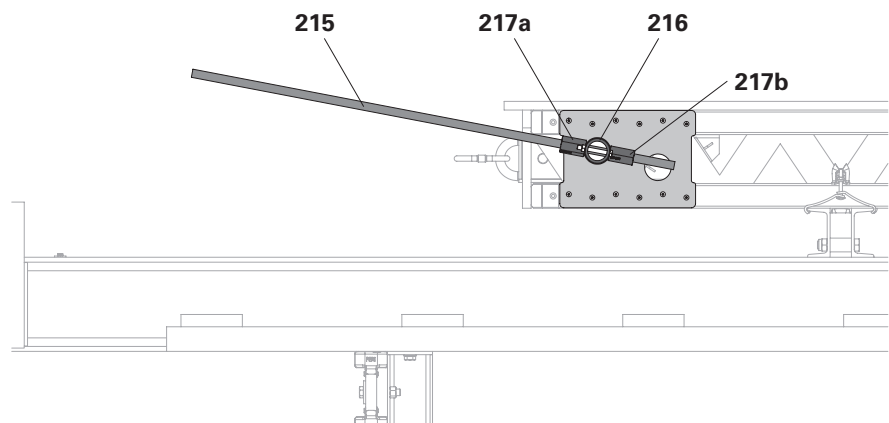

Fig. C4.02
6. Screw Hexagon Nuts DW 20, AF 36/60 (**217a + 217b**) onto Suspended Tube 530 ACS (**216**). (Fig. C4.02)